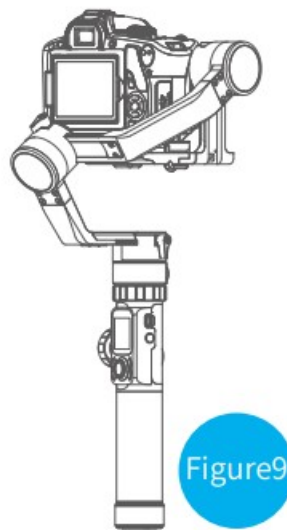
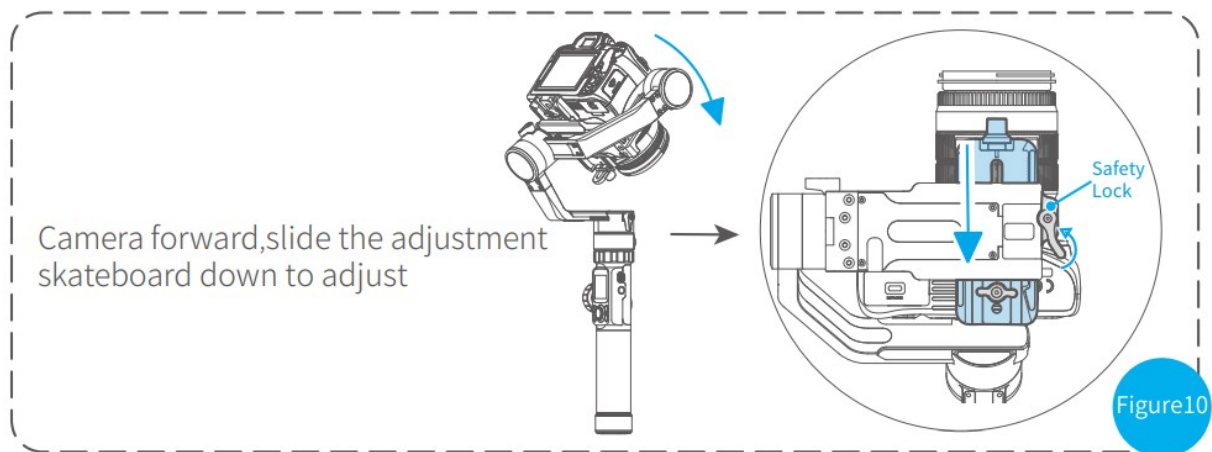
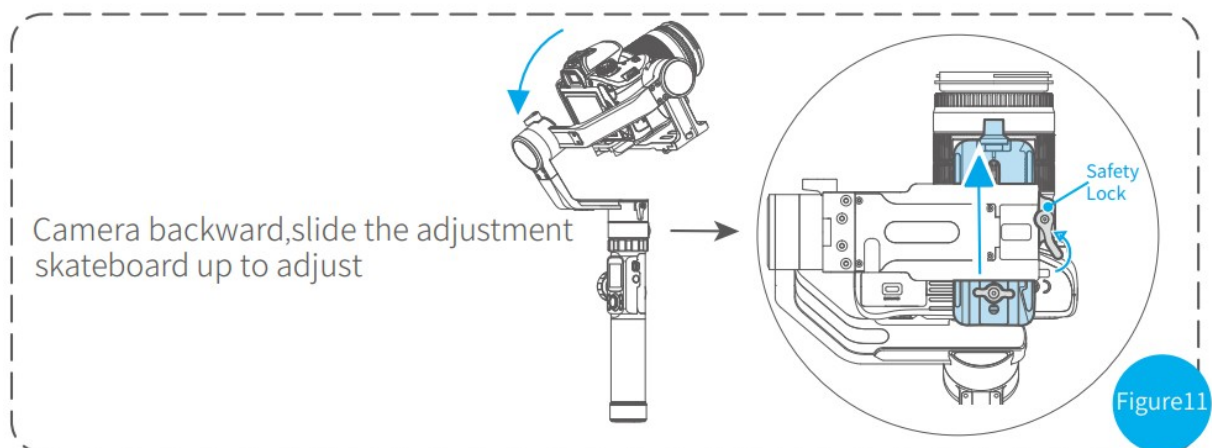

Figure9
Figure10
Figure11
2. Adjust the center of gravity position of the tilting axis forward and backward: point the camera lens horizontal forward, adjust cross arm to maintain the level as shown in figure9, let go and observe the state of rotation. Unscrew the camera safety lock on the right side and adjust the balance by sliding the quick release plate at the bottom of the camera back and forth (see Figure 10, Figure 11). When the cross arm is kept horizontally, the tilt axis can stay stably at any angle, indicating that the balance